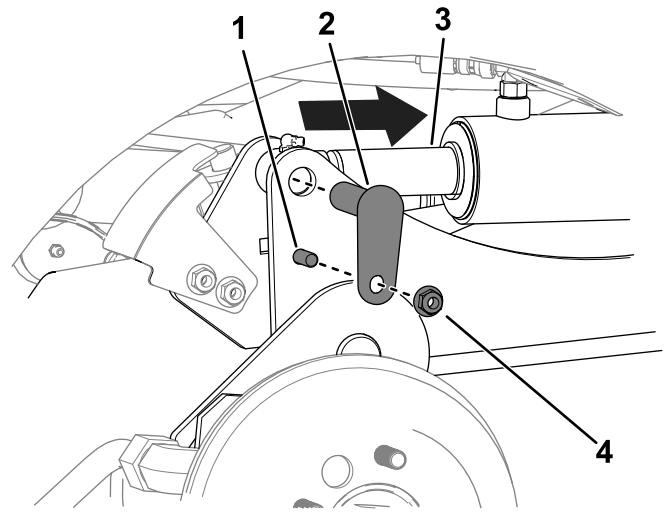

Figure 11
C. Use a drift punch to align the cylinder rod holes with the lift-arm holes (Figure 11).
D. Use 2 bolts (3/8 x 1-1/4 inches), 2 nuts (3/8 inch), and 2 small pins to secure the lift arms to the cylinders (Figure 11).